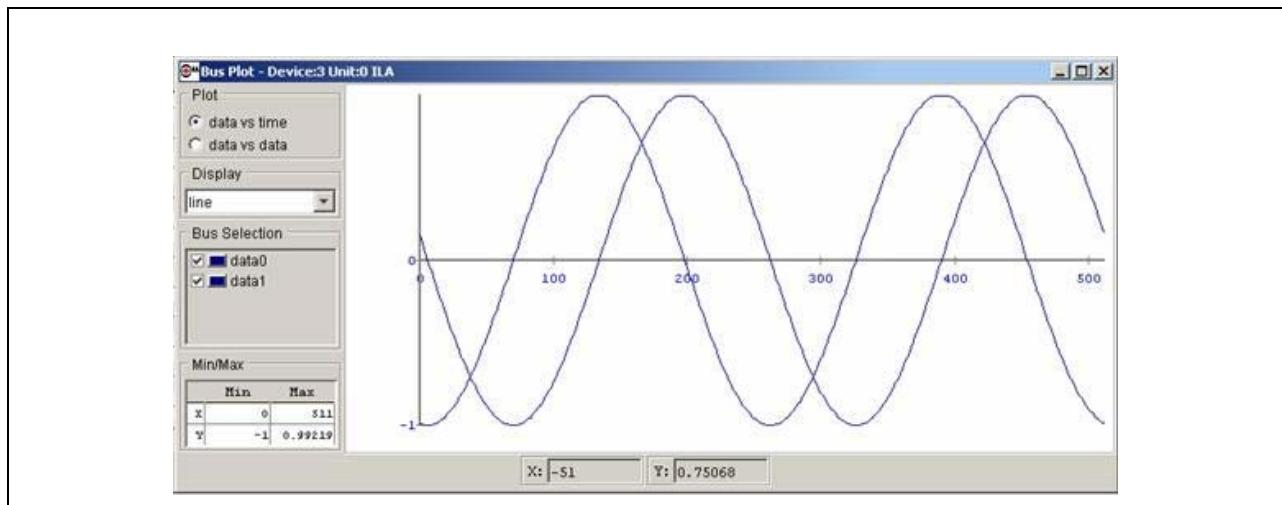

Figure 146: Chipscope Bus Plot
6. Plot the Sine Waves. In the New Project window, under Device 3 -> Unit 0 ILA, double click on Bus Plot. A Bus Plot window appears as shown in Figure 146 on page 219. Select data0 and data1 in the Bus Selection section and then arm the trigger.
Since no trigger conditions have been set, values are captured immediately. Both the sine and cosine appear as shown in Figure 146 on page 219. The display option can be changed to represent the waveforms with points, lines, or both.